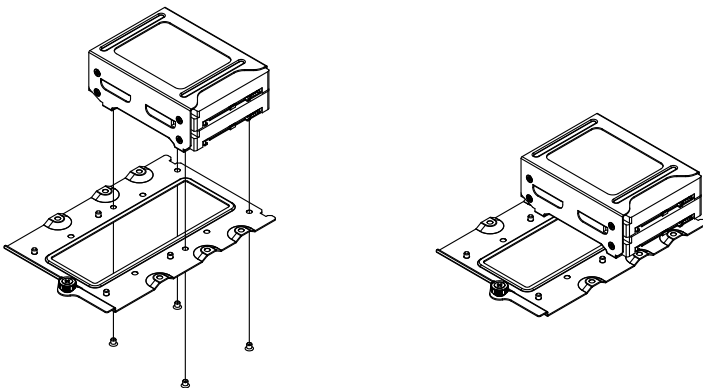

Figure 6-4. Securing the Bracket to the HDD Tray (2.5" Drives)
2. Secure the bracket to the HDD mounting tray. (Figure 6-4)